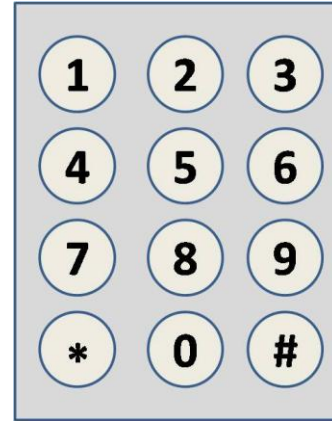

FIG 18.: Keypad Layout
**Buttons** 0-9 are used to move between the various modes, menus and sub-menus; while the **#** button is used to enter a menu, confirm or save a setting. See Figure 18